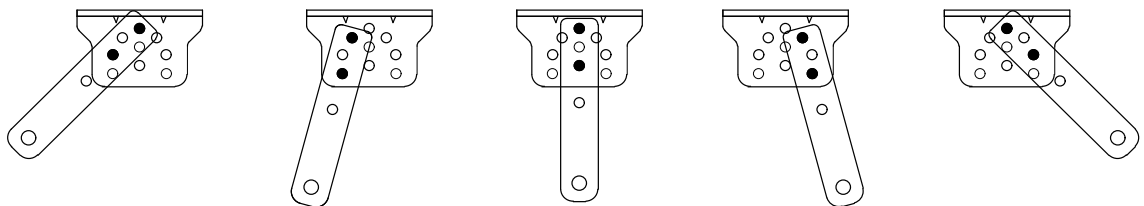

Figure 5
B) The connecting bracket and the wall bracket can be connected according to different conditions, please refer to figure 5.